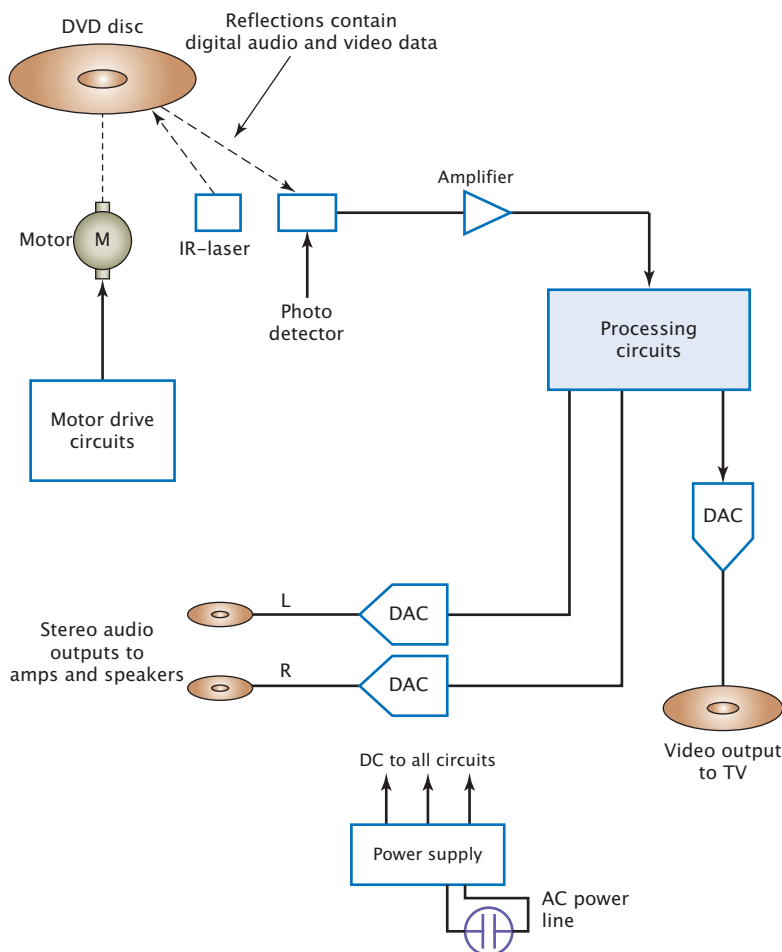

Figure 27-22 A DVD player.
Figure 27-22 shows the system diagram of a DVD player. The DVD contains an invisible spiral of digital data representing the video and audio of a movie or other entertainment. That data are accessed by shining a tiny infrared (IR) laser beam on the underside of the spinning disc. The laser beam is reflected by the data and picked up by a photo sensor or detector. The sensor output is a series of digital pulses representing the video and audio. The photo detector signal is amplified and applied to processing circuits that separate the data into video and audio streams. Then DACs are used to convert the digital data into the analog video and audio signals that can be presented on a TV set.